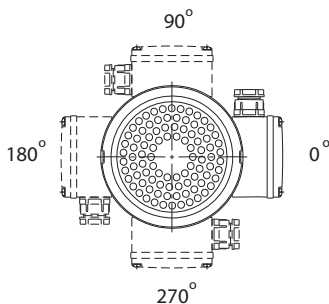

Fig.3
- 5.7 The position of the motor connecting box is adjustable. Referring to Fig.3, the adjustment can be done by removing the motor fan cover, unscrewing the
5.6 本產品馬達接線盒為可移動設計，如第 4 頁 Fig.3 所示；調整步驟首先將馬達及泵浦間固定螺絲拆下後再旋轉泵浦至預定位置，再將固定螺絲鎖緊並將風罩裝回即可。